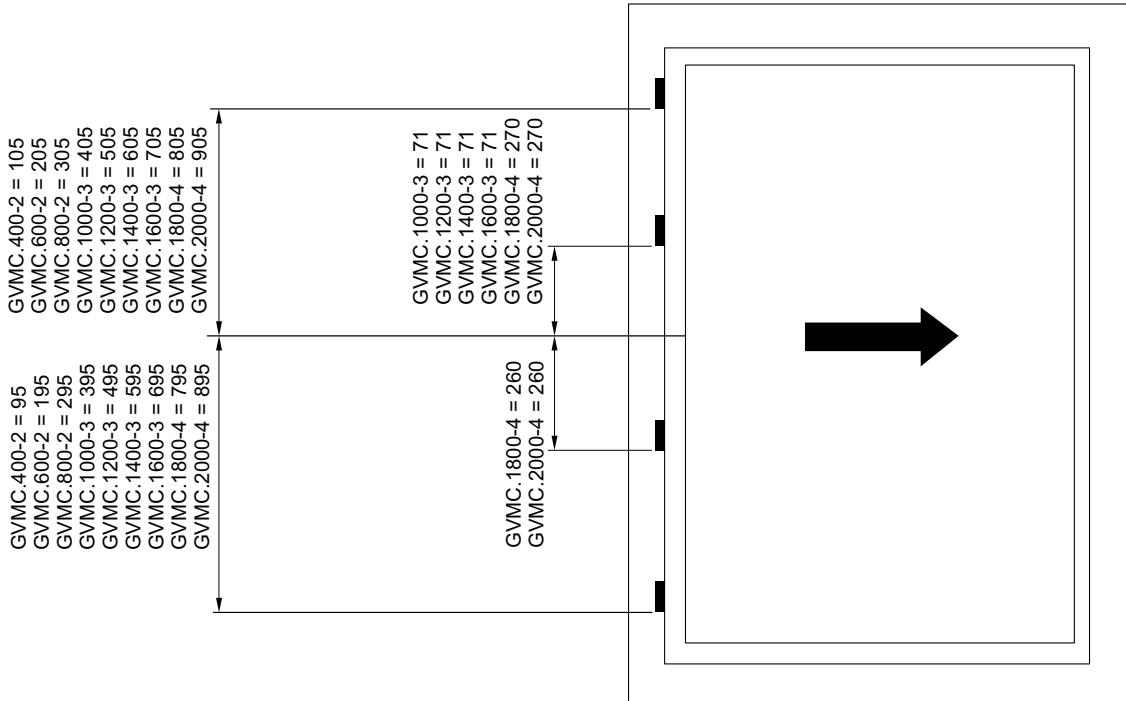

Fig. 1: Keep position "central handle position for D15.5"
- See Group 6, Figure 1, 2 & 3 for installation position